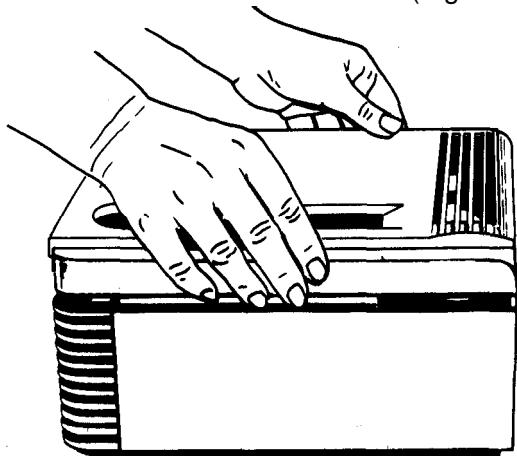
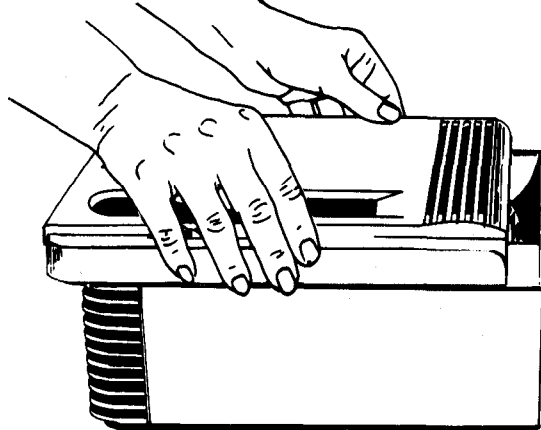
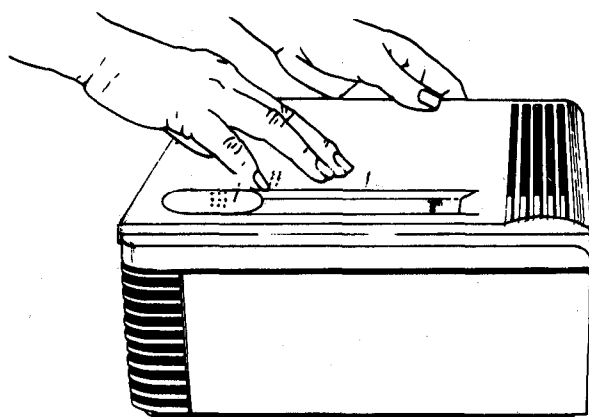

Figure 6
Figure 7
Figure 8
Replace the cabinet top by positioning over the unit. (Figure 6) Gently slide the top forward until the top drops into place. (Figure 7) Slide the top backward until flush with the back of the unit. (Figure 8)
Replace the cabinet top by following the steps listed above. (Figures 6, 7 and 8)
4. Cabinet Top is properly intalled	4. Refer to Figures 6, 7 and 8, Page 2.